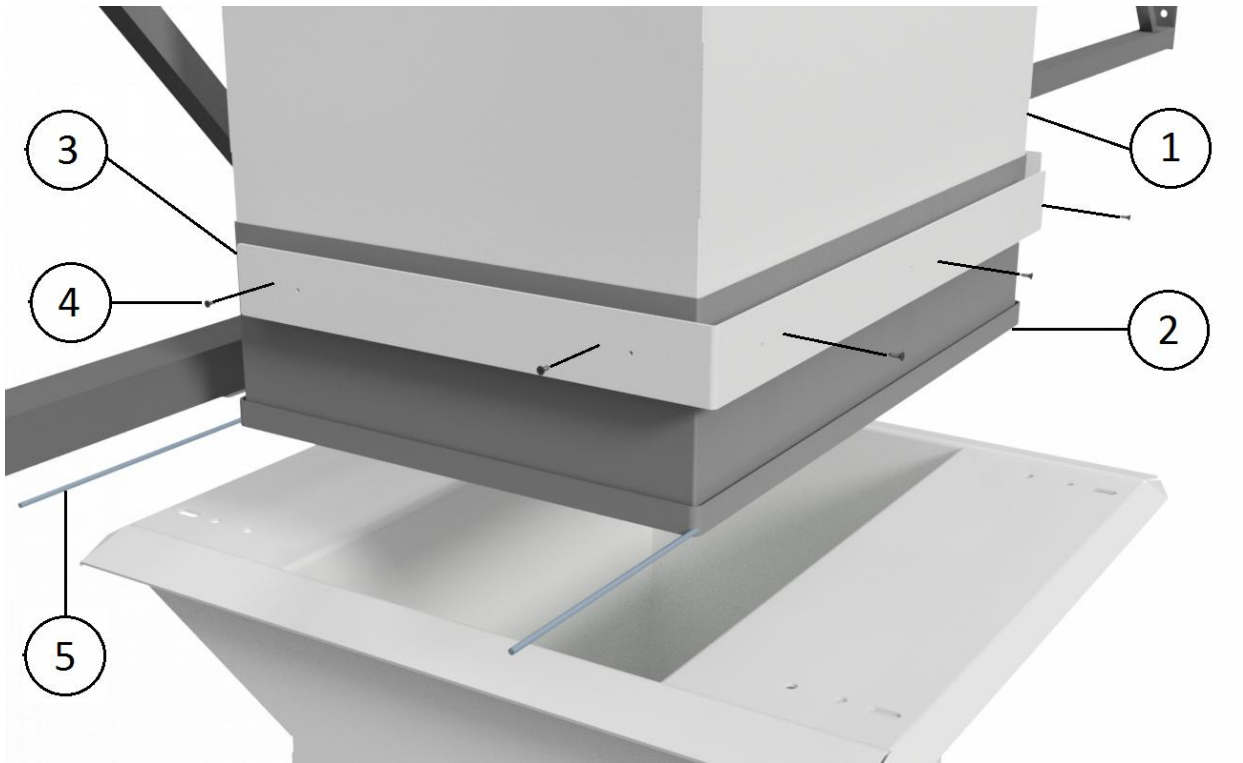
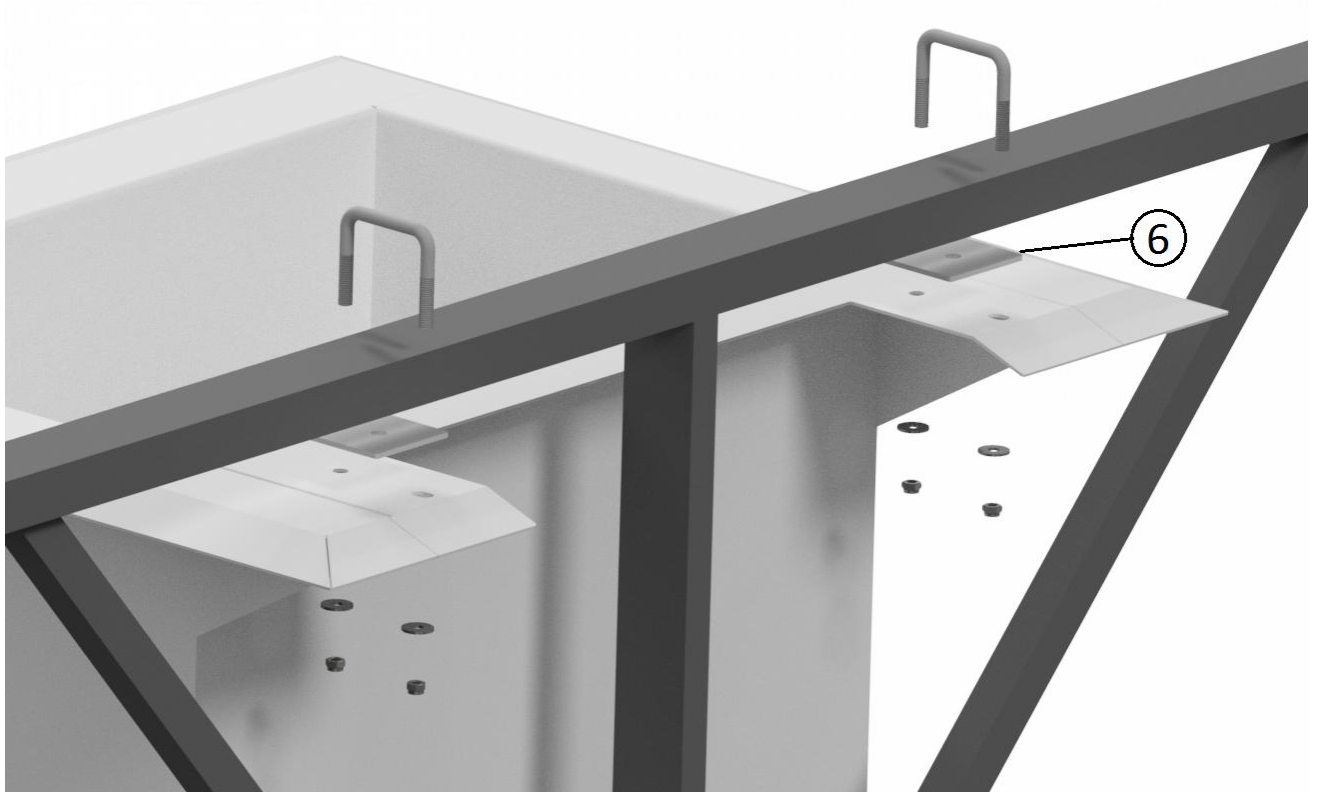

Figure 9 Attaching the spacer
Figure 10 Attaching the spacer
- 2x clamping strips (3);
- 1x cuff (2);
- 10x self-tapping screws (4);
- 2x 3mm padding strips aluminum (6)
- 2x stainless steel shaft L=540 mm (ø 4mm) (5)
- Assembly (see Figure 9 and Figure 10);
- Slide the cuff (2) over the spacer (1) and place the spacer next to the upper bar of the truss lattice aligned with the opening atop of the aluminum Airmix housing;
- Attach the spacer to the upper truss lattice with two clamps, four M8 body work rings, four M8 lock nuts and two aluminum padding strips (6) (as shown in Figure 10);
- Use the padding strip (6) between the truss lattice bar and the Airmix housing to create an opening of 3mm for the screen support wires;
- Attach the cuff to the spacer using two clamping strips (3) and self-locking screws (4)
- Slide two pieces of stainless steel shaft (ø 4mm) (5) into the cuff (2) for increased strength and stability;